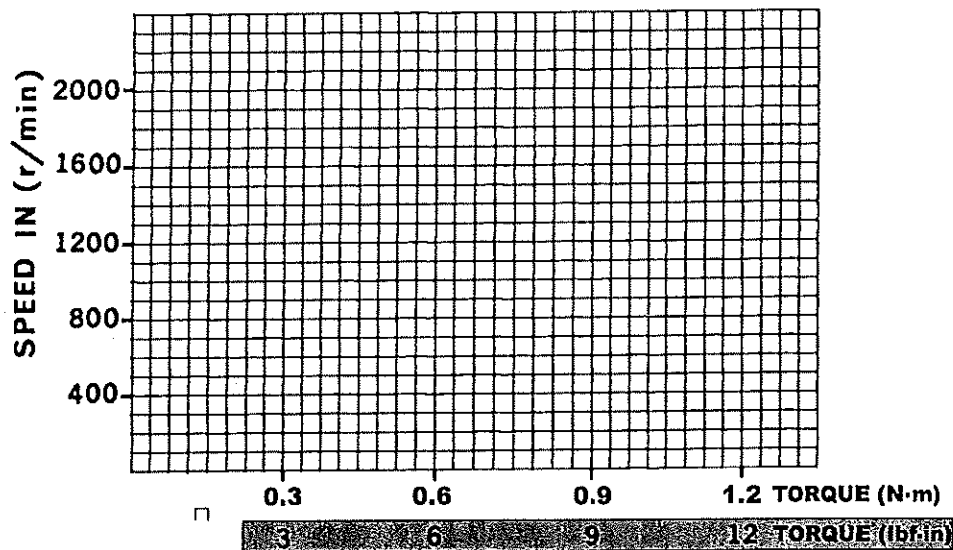

Figure 6-3.
8. a. Plot the recorded motor speed values from Table 6-1 on the graph of Figure 6-3.